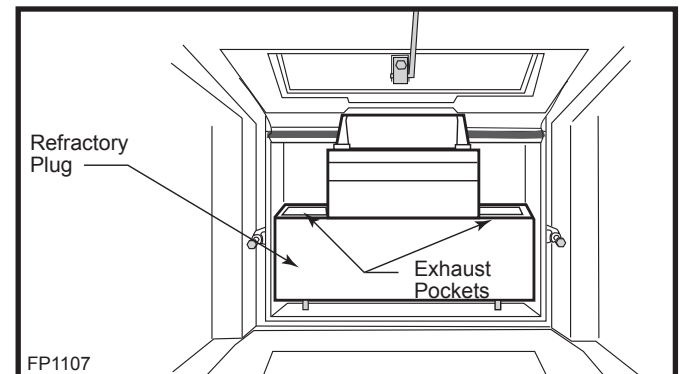

Fig. 18 The refractory package.
4. Clean the left and right exhaust pockets of the refractory package. Use a shop vacuum to avoid damaging the fragile refractory material. (Fig. 18)